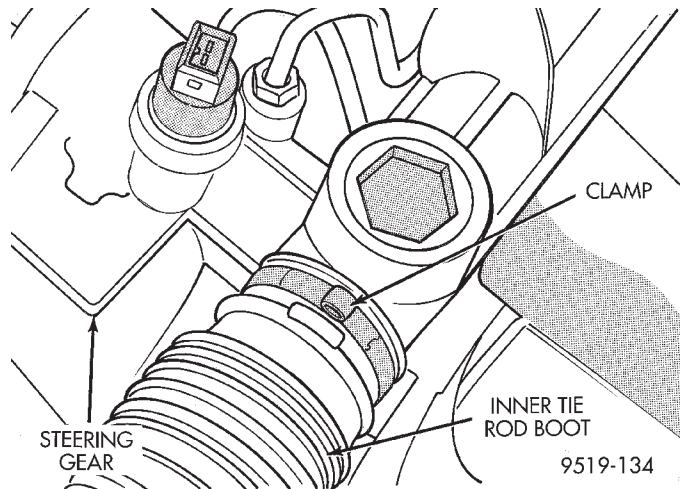

Fig. 29 Tie Rod Boot To Steering Gear Clamp
(8) Remove the tie rod boot to steering gear clamp (Fig. 29).